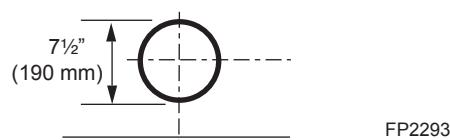

Figure 16 - Locate vent opening on wall.
Locate vent opening on the wall. It may be necessary to first position the fireplace and measure to obtain hole location. Depending on whether the wall is combustible or noncombustible, cut opening to size. *Figure 16* (For combustible walls first frame in opening.)
Combustible Walls: Cut a 9 $\frac{5}{8}$ "H x 9 $\frac{5}{8}$ "W (244 x 244 mm) hole through the exterior wall and frame as shown. *Figure 16*
- Establish vent hole through the wall. *Page 17, Figure 16*